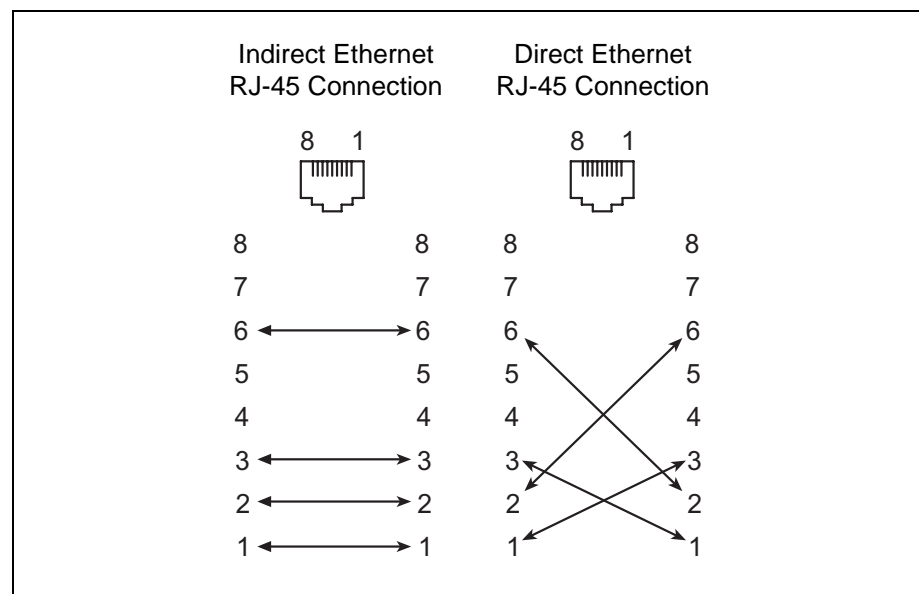

Figure 3-2. Ethernet Cable Connections
- Indirect Ethernet connection from the management workstation to the switch module RJ-45 Ethernet connector through an Ethernet switch or a hub. This requires a 10/100 Base-T Ethernet straight cable as shown in Figure 3-2. With this method, you can manage the switch module with the McDATA Embedded Web Server application or Command Line Interface.
- Direct Ethernet connection from the management workstation to the switch module RJ-45 Ethernet connector. This requires a 10/100 Base-T Ethernet cross-over cable as shown in Figure 3-2. With this method, you can manage the switch module with the McDATA Embedded Web Server application or Command Line Interface.